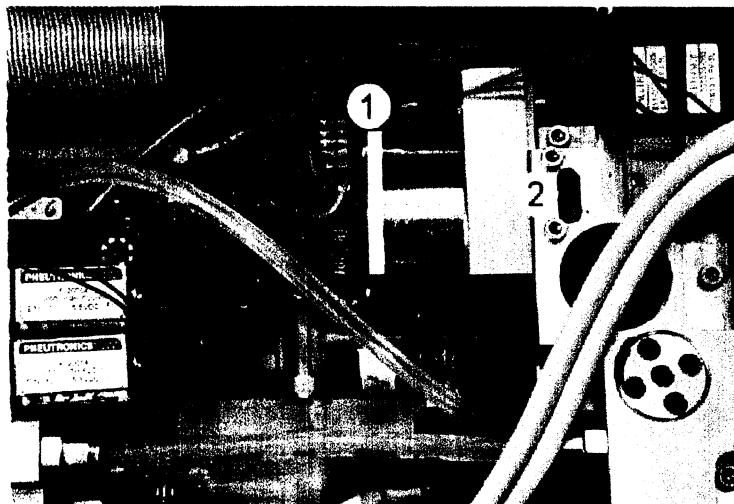

Fig. 6 Removing the PEEP valve
2. Remove the connector Fig. 6/1 of the PEEP valve from the sensor PCB.
3. Remove the two PEEP valve fixing screws Fig. 6/2.